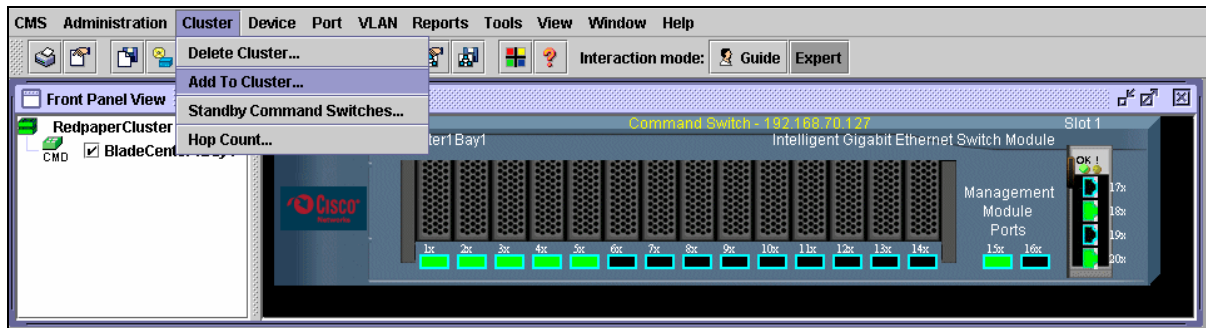

Figure 5-30 Cisco Cluster Management Suite window
1. Choose **Cluster** → **Add To Cluster** from the menu bar (Figure 5-30).